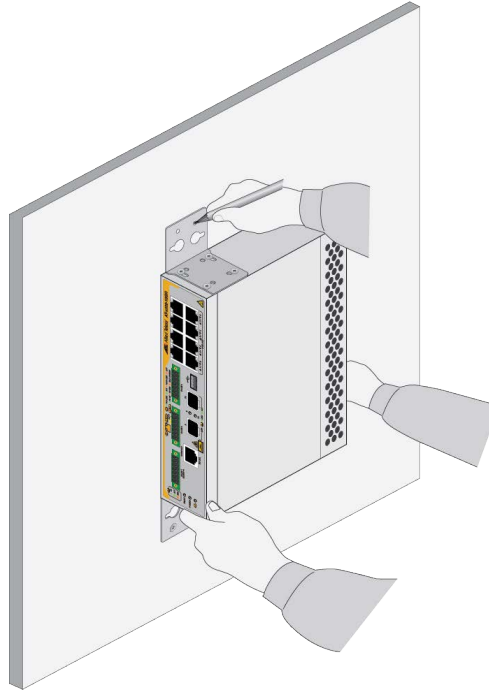

Figure 55. Marking the Locations of the Bracket Holes on a Concrete Wall
3. Have another person hold the device on the concrete wall at the selected location for the device while you use a pencil or pen to mark the wall with the locations of the screw holes in each bracket (one screw per bracket). Refer to Figure 55 on page 114.